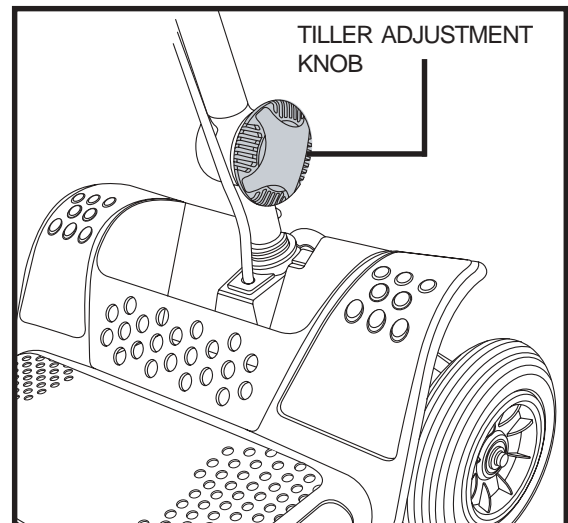

Figure 16. Tiller Adjustment Knob
1. While supporting the tiller, turn the tiller adjustment knob counterclockwise to loosen the tiller. **See figure 16.**